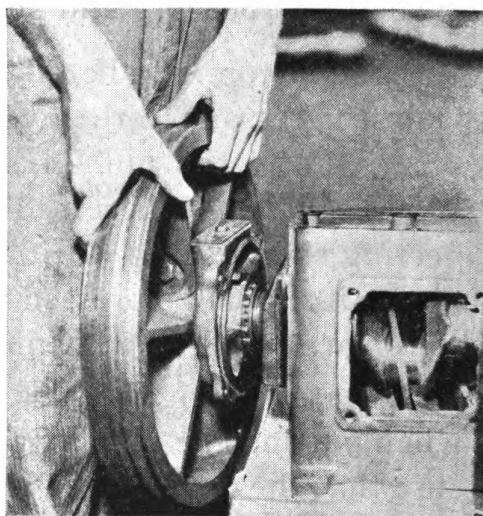

FIGURE 40
3. Pull out flywheel and crankshaft assembly. See Figure 40.